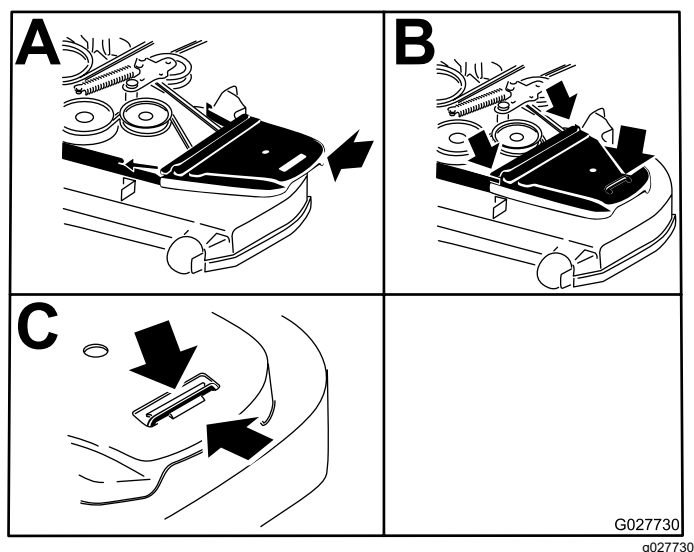

Figure 63
12. Install the belt covers and the bolts attached to them (Figure 63).